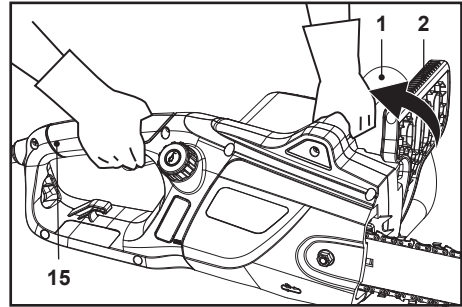

Fig. 6
2. Ensure the saw chain (3) does not come into contact with anything before starting the product.
3. Grip the product with both hands, your left hand holding the front handle (1) (do not hold the front hand guard) and your right hand holding the rear handle (15). Do not start the product while handling it with one hand.
4. Press the lock-off button (14) with your right thumb, then fully press the on/off switch (13) with your index finger and hold in this position (Fig. 6).
5. Release the on/off switch (13) to switch the product off.